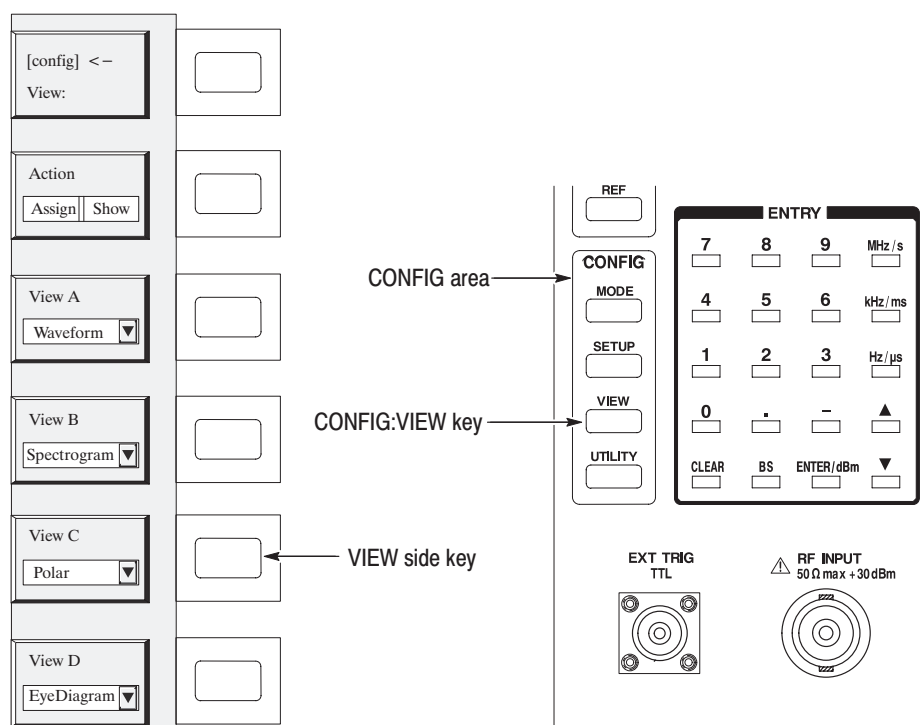

Figure 2–33: Displaying the CONFIG:VIEW key and its associated submenus
1. Press the **VIEW** key in the CONFIG area (see Figure 2–33).
The display area shows the menu used to set the format of the four views (see Figure 2–33).